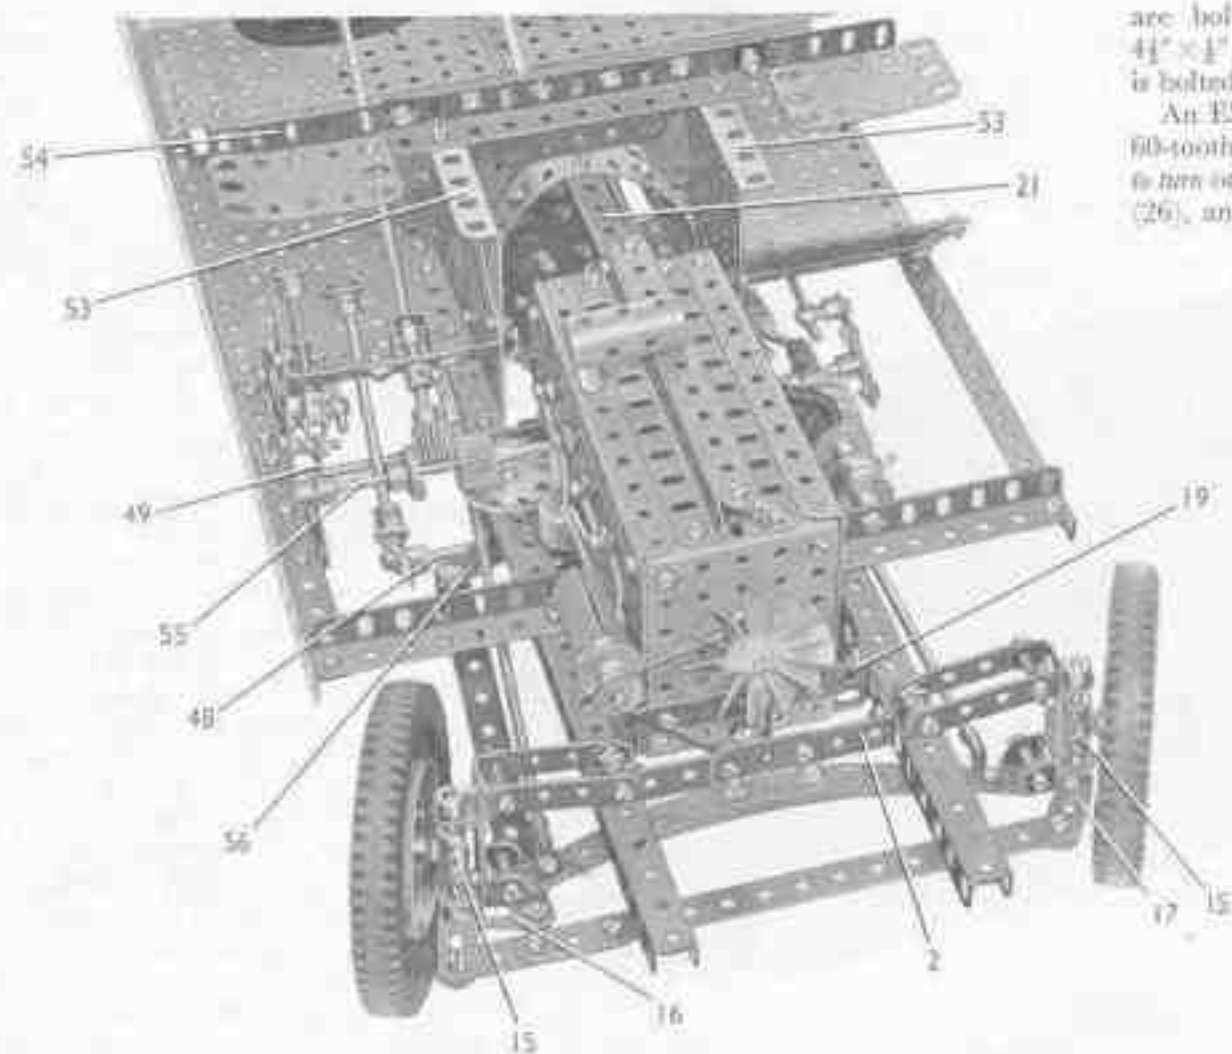
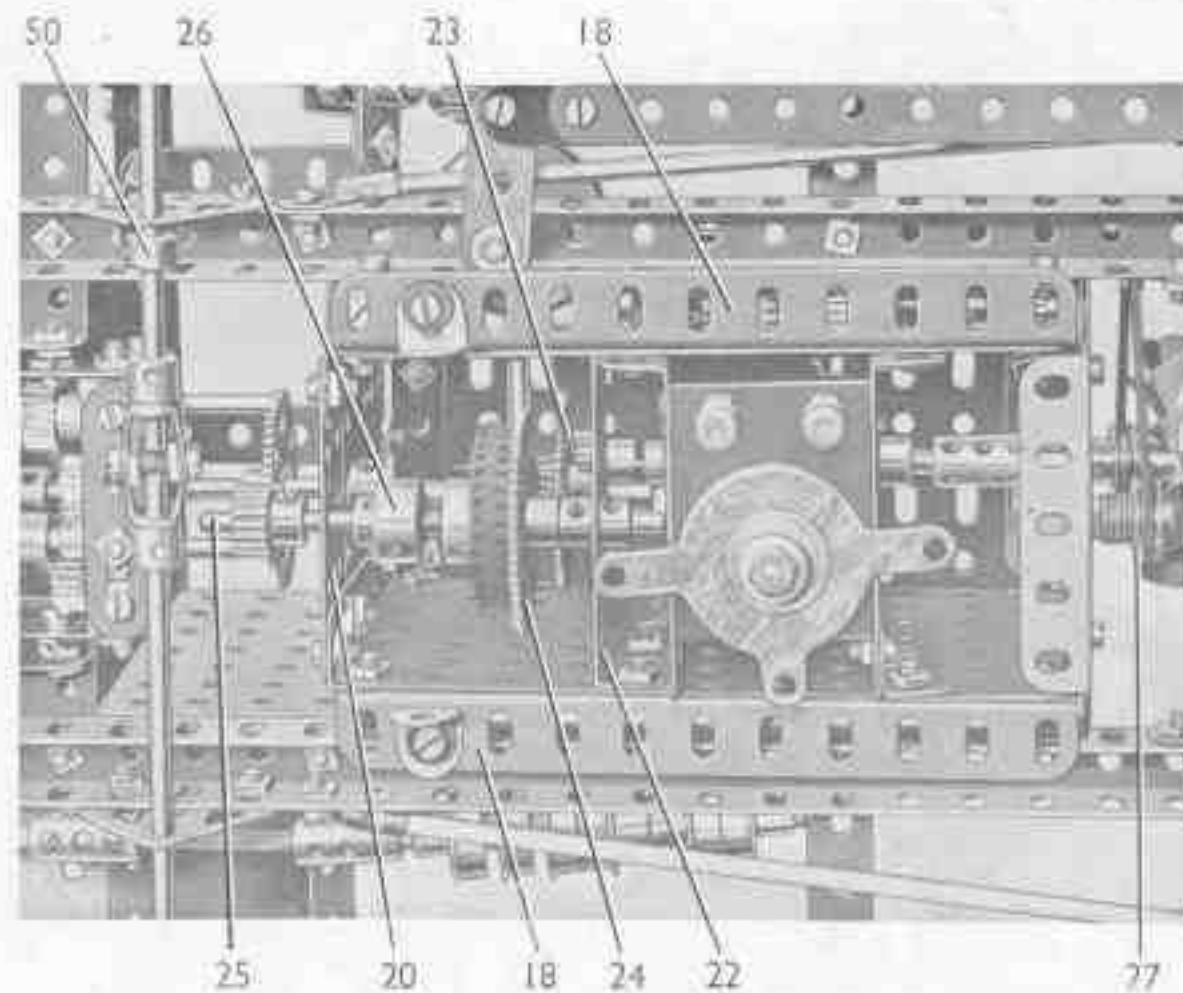

FIG. 4 - A front view of the chassis showing the steering mechanism in detail
FIG. 5 - The engine unit, seen from below
Flat Girder is bolted, and to this is fixed a  $9\frac{1}{2}$ " Angle Girder (1). The chassis members are connected by a  $3\frac{1}{2}$ " x  $\frac{1}{2}$ " Double Angle Strip (2) (Fig. 4), and a  $3\frac{1}{2}$ " Angle Girder (3) fixed to Angle Brackets. They are joined also by a  $7\frac{1}{2}$ " Angle Girder (4) braced by  $1\frac{1}{2}$ " Corner Brackets. The Girder (3) is braced to the channel girders by two  $3\frac{1}{2}$ " Angle Girders.
#### Construction of the Front Axle (Fig. 4)
#### The Engine Unit (Figs. 4, 5 and 6)
Each side of the engine unit (Figs. 4 and 6) is a  $5\frac{1}{2}$ "  $\times$   $3\frac{1}{2}$ " Flat Plate fitted at each end with a  $3\frac{1}{2}$ " Angle Girder, at the top with a  $5\frac{1}{2}$ " Angle Girder, and at its lower edge with a  $5\frac{1}{2}$ " Angle Girder (18) (Fig. 5). The sides are connected at the front by a  $3\frac{1}{2}$ "  $\times$   $2\frac{1}{2}$ " Flanged Plate, to which a  $3\frac{1}{2}$ "  $\times$   $\frac{1}{2}$ " Double Angle Strip (19) is bolted, and at the rear are joined by a  $2\frac{1}{2}$ "  $\times$   $2\frac{1}{2}$ " Flat Plate, a  $3\frac{1}{2}$ "  $\times$   $\frac{1}{2}$ " Double Angle Strip and a  $2\frac{1}{2}$ " Strip (20). At the top of the unit two  $5\frac{1}{2}$ " Angle Girders
The dynamo is a Sleeve Piece fitted at one end with a Chimney Adapter and at the other with a  $\frac{1}{2}$ " Flanged Wheel. A  $\frac{1}{2}$ " loose Pulley is free to turn on a  $\frac{1}{2}$ " Bolt gripped in the Flanged Wheel, and the Sleeve Piece is spaced from the engine unit by a nut on the bolt that holds it in place. A  $\frac{1}{2}$ " loose Pulley (27) (Fig. 5), is free to turn on a Pivot Bolt. The three  $\frac{1}{2}$ " Pulleys are connected by a Driving Band.
A  $\frac{1}{2}''$  diameter  $\frac{1}{2}''$  face Pinion on the lower end of the steering column engages a  $\frac{1}{2}''$  Contrate on a  $5''$  Rod (35) (Fig. 4). This Rod is supported in one side of the engine unit and in a Trunnion fixed to one of the Girders (9). A  $\frac{1}{2}''$  diameter  $\frac{1}{2}''$  face Pinion on Rod (35) meshes with a  $1\frac{1}{2}''$  Contrate on a vertical  $1\frac{1}{2}''$  Rod. The  $1\frac{1}{2}''$  Rod is passed through one of the chassis members and is held in place by a Collar. A Crank (36) is fixed on the lower end of the  $1\frac{1}{2}''$  Rod, and to it is bolted a Fishplate. The Fishplate is bolted to a  $5\frac{1}{2}''$  Strip bolted to the Bell Crank (16).